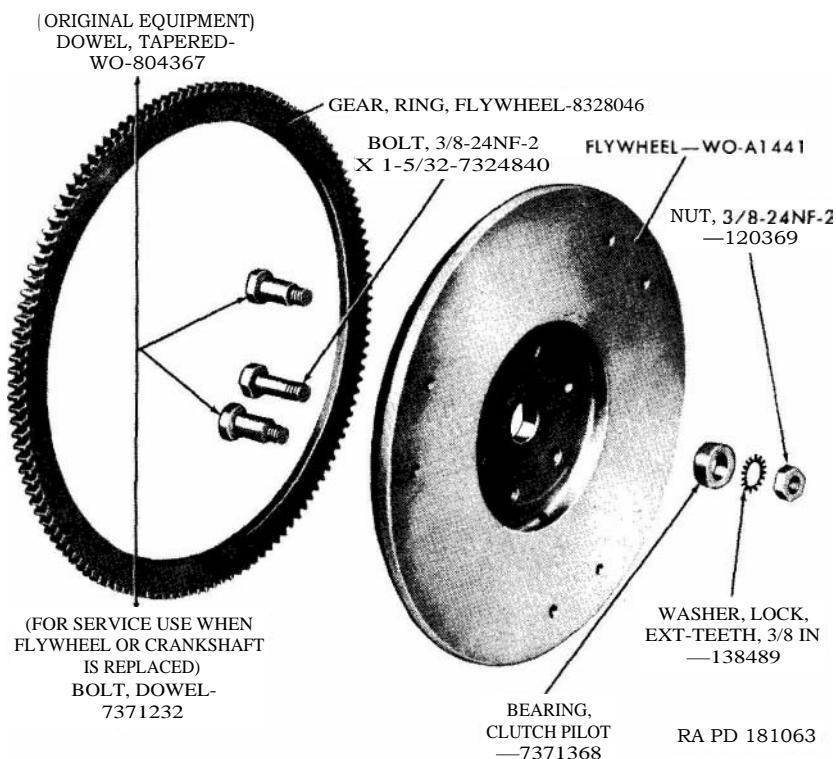

Figure 52. Flywheel assembly—disassembled view.
a. If the friction face of the flywheel is scored or worn so badly that it cannot be corrected by refacing, replace the flywheel and flywheel ring gear assembly (fig. 52). If any of the mounting holes are misshapen or elongated, replace the flywheel.
accommodate the *straight* dowel bolts (fig. 52) furnished with the replacement flywheel or crankshaft as follows :